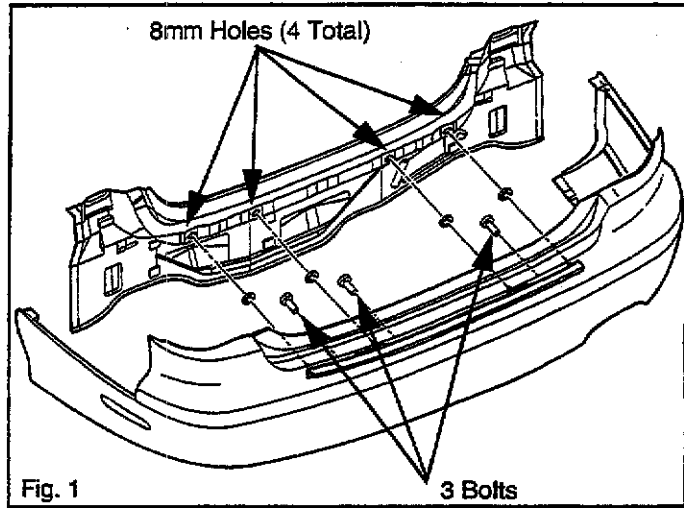

Fig. 1
1. Drill four (4) 8mm holes in the rear panel as illustrated. Refer to Fig. 1.
2. Using three (3) bolts, assemble and tighten the reinforcement brackets and the retainer to the rear bumper.